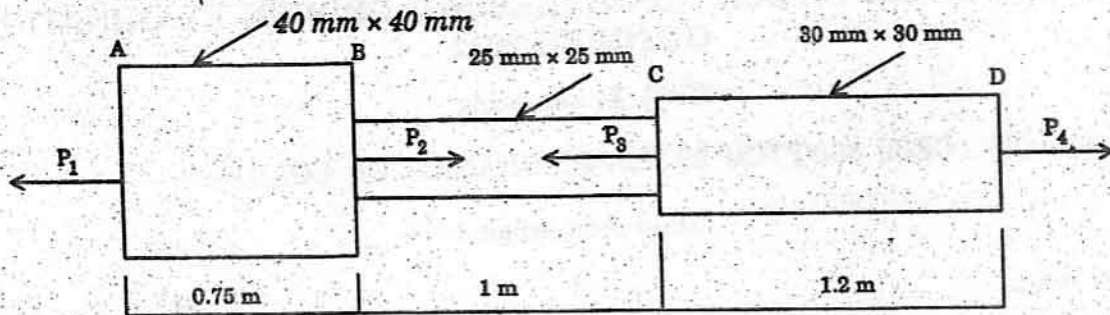

Fig. 2
- (b) A member ABCD is subjected to point loads P_1 , P_2 , P_3 and P_4 as shown in Fig. 2. Calculate the force P_3 necessary for equilibrium if $P_1 = 120$ kN, $P_2 = 220$ kN and $P_4 = 160$ kN. Determine also the net change in the length of the member. Take $E = 200$ GN/m².